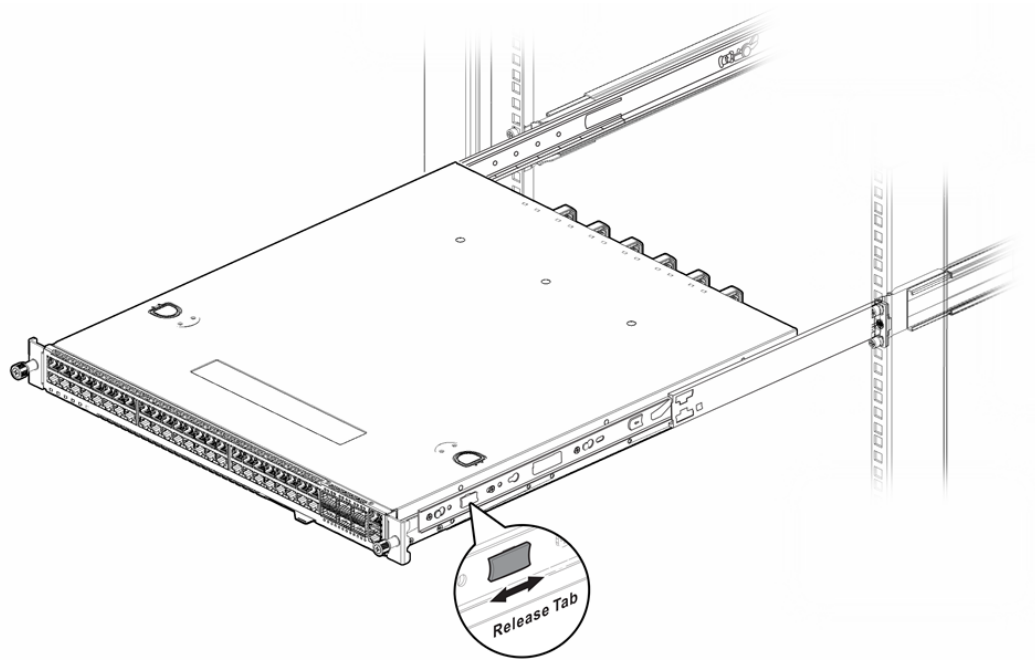

Figure 14: Pushing the Mounting Brackets into the Rail Assemblies
12. Release the tabs on both slider assemblies, and slide the switch back until it is firmly in place. Screw the mounting ear thumbscrews into the rack rails to hand tightness. See Figure 14.